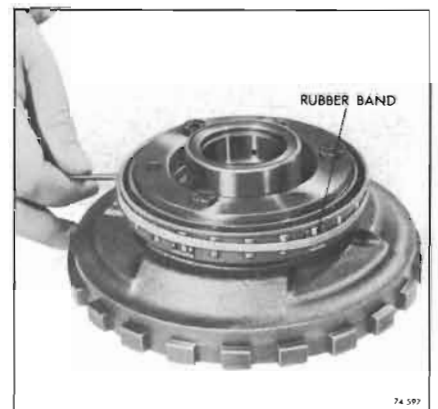

Figure 74-597
a. Place a rubber band on the sprag or roller clutch assembly O.D. to hold the sprags or rollers in place. See Figure 74-597.